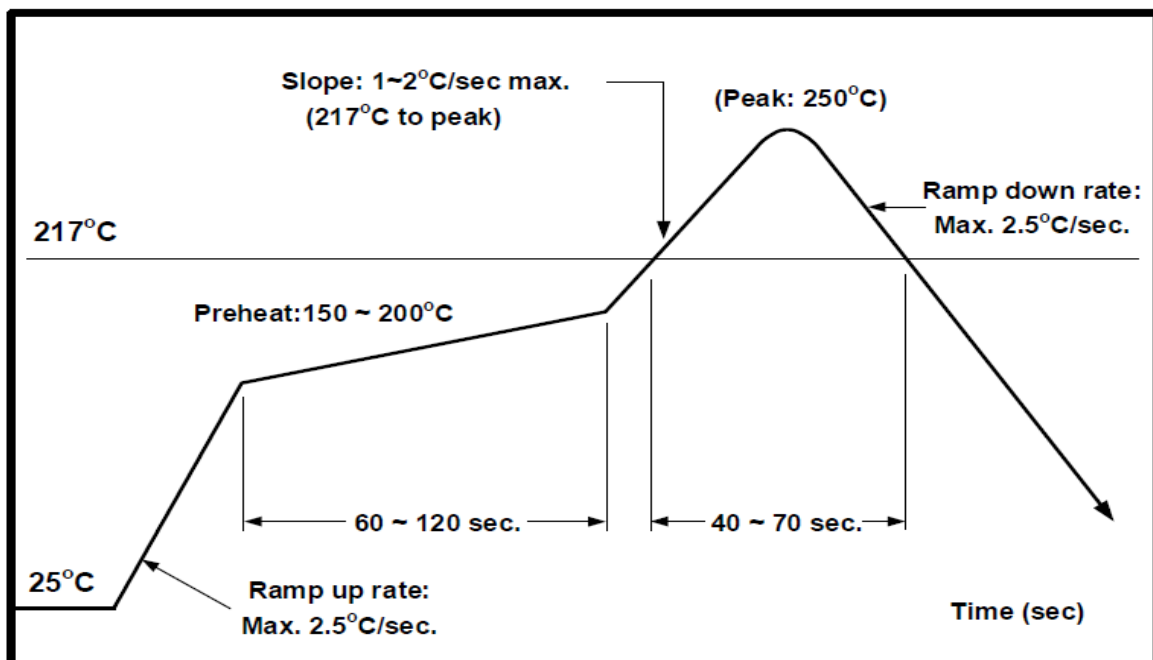

Figure 23 : Solder reflow profile
- Allowable reflow soldering times: Three times based on the reflow soldering profile as shown in *Figure 23*.
- Temperature profile: Reflow soldering shall be done according to the temperature profile as shown in *Figure 23*.